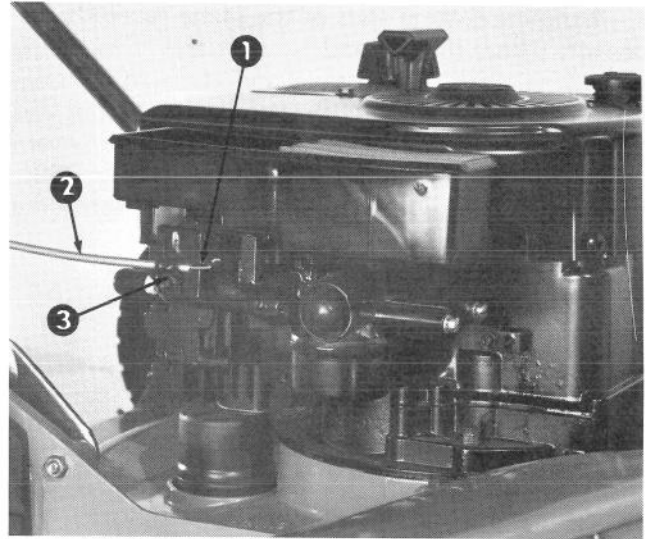

Figure 30
3. Loosen cable clamp screw until throttle cable is free to slide (Fig. 30).
4. Move carburetor control arm to the left until it contacts grounding bracket (Fig. 30). Pull throttle cable slightly to remove any slack, and tighten the cable clamp screw to lock the adjustment in place.